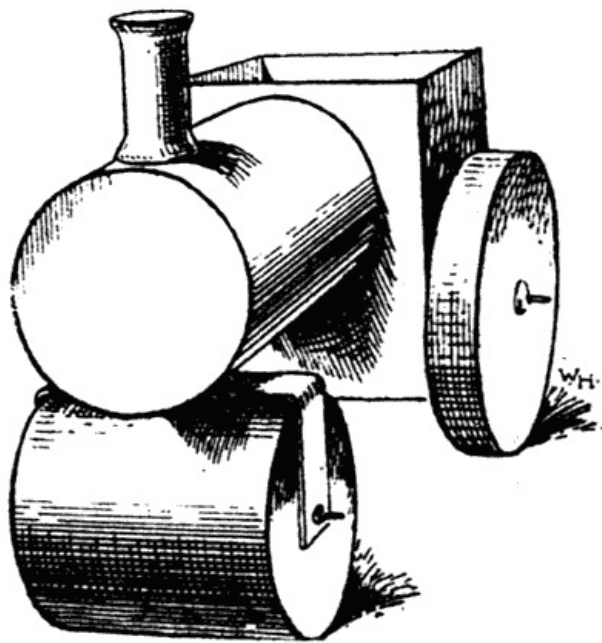

FIG. 80.
*A Tin-can Steam Roller.*—This is a nice piece of metal work, and, when finished well, provides a proper little toy. To construct it you need several tins—a round tin, such as a cocoa tin, about 2 in. across and 4 in. long; an oblong tin, about 3-1/2 in. by 3 in. by 2 in., such as the larger-sized mustard tins; a round cigarette tin, about 2-1/2 in. across and 3-1/4 in. deep; two equal-sized tin lids from canisters, each about 4 in. across; and a cotton reel. These, the main items, when put together, yield a model similar to that shown in Fig. 80.